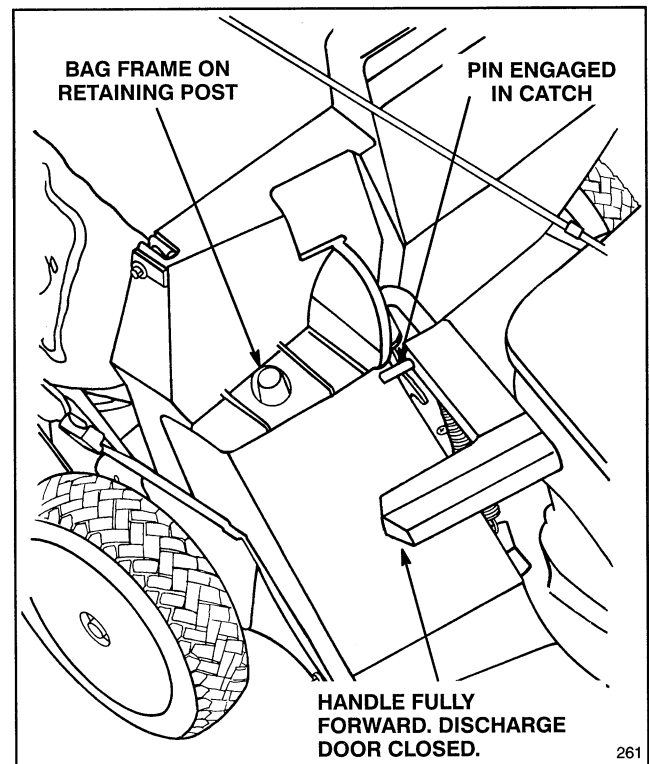

Figure 14
2. Ensure discharge door handle is fully forward and pin is engaged in catch (Fig. 14).
3. **INSTALLING BAG**—Slide hole in bag frame onto retaining post on discharge tunnel (Fig. 14). Set rear of bag frame onto support rod.
5. EMPTYING BAG—Stop engine and wait for all moving parts to stop. Raise discharge door handle and move it forward to engage the locking pin with catch (Fig. 14). Grasp handles at front and rear of bag and lift bag off mower. Gradually tip bag forward to empty clippings.